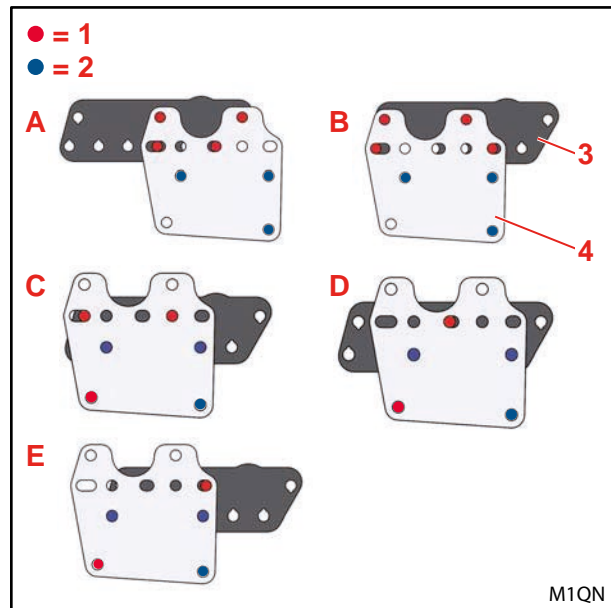

Fig. 12 Installation positions of the valves on the bracket of the right mounting part
i The valves can be installed in different positions (see Fig. 12).
- (4) Install the valves over the stud bolts with hexagonal nuts on the retaining plate or retaining plate and bracket on the right mounting part.
- (5) For installation positions C, D and E (see Fig. 12), install the valves additionally with 1 hexagonal screw M8x30 and 1 detent edged ring on the retaining plate.